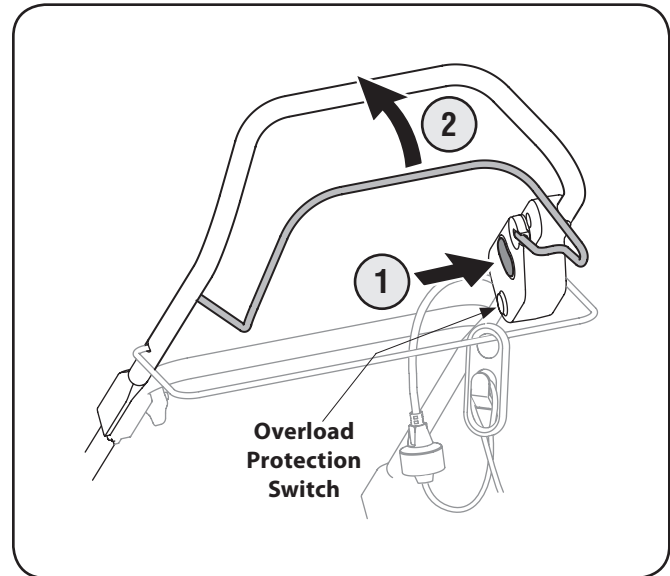

Figure 5-2
3. Depress the (red) starter button and hold it in. See Fig. 5-2.
4. While holding the starter button in, pivot the motor/ blade control handle upward against the upper handle to start the motor and engage the blade. See Fig. 5-2.